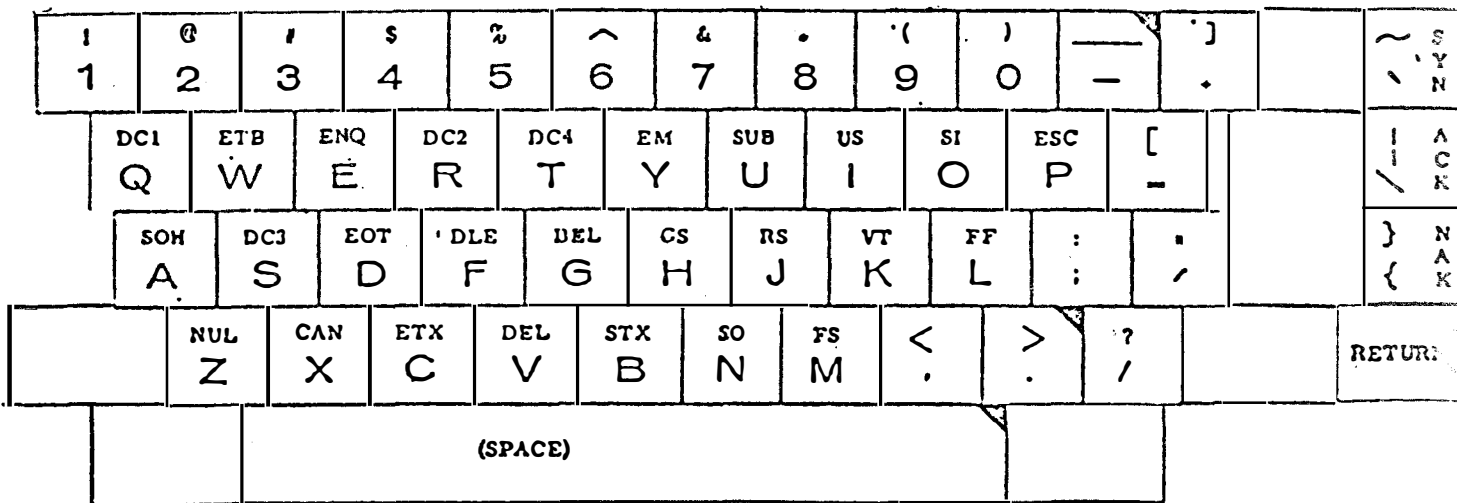

Figure 5
2. Depress each key on the keyboard portion of the OPCON indicated in Figure 5.
3a. Disengage the "CAPS LOCK" key by depressing it again momentarily. Again depress each key on the keyboard shown in Figure 5. Then depress the "NEW LINE" key.